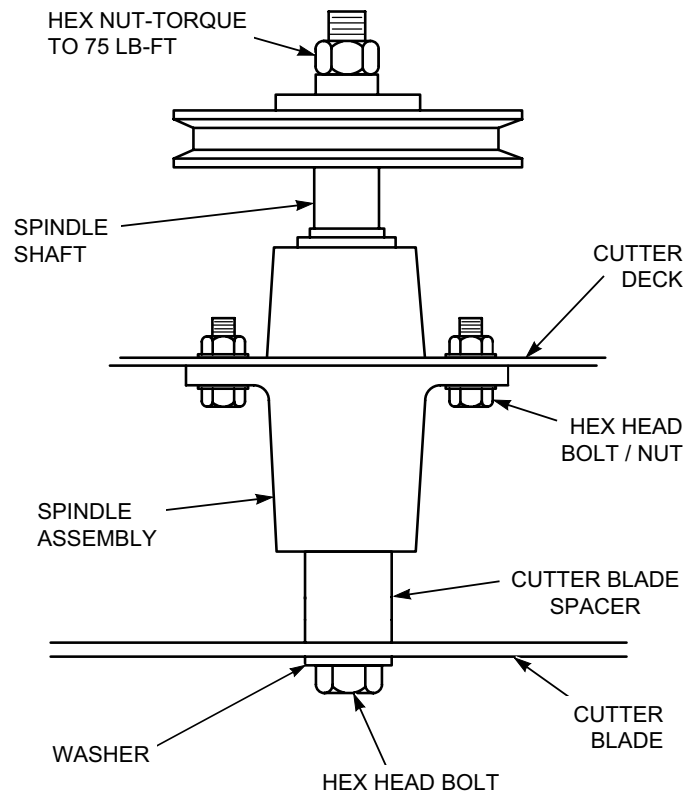

Figure 7-7. Blade Replacement
3. Secure the cutter blades to prevent them from rotating, (use the optional Blade Buddy tool P/N 9212, to assist in securing the cutter blades), remove the nut from the blade attaching bolt. Remove the cutter blade, bolt and spacer from the spindle shaft. See Figure 7-7.
6. Install the hex nut to the blade bolt at the top of the cutter spindle. Secure the blades from rotating and torque to 75 ft/lbs. See Figure 7-7.